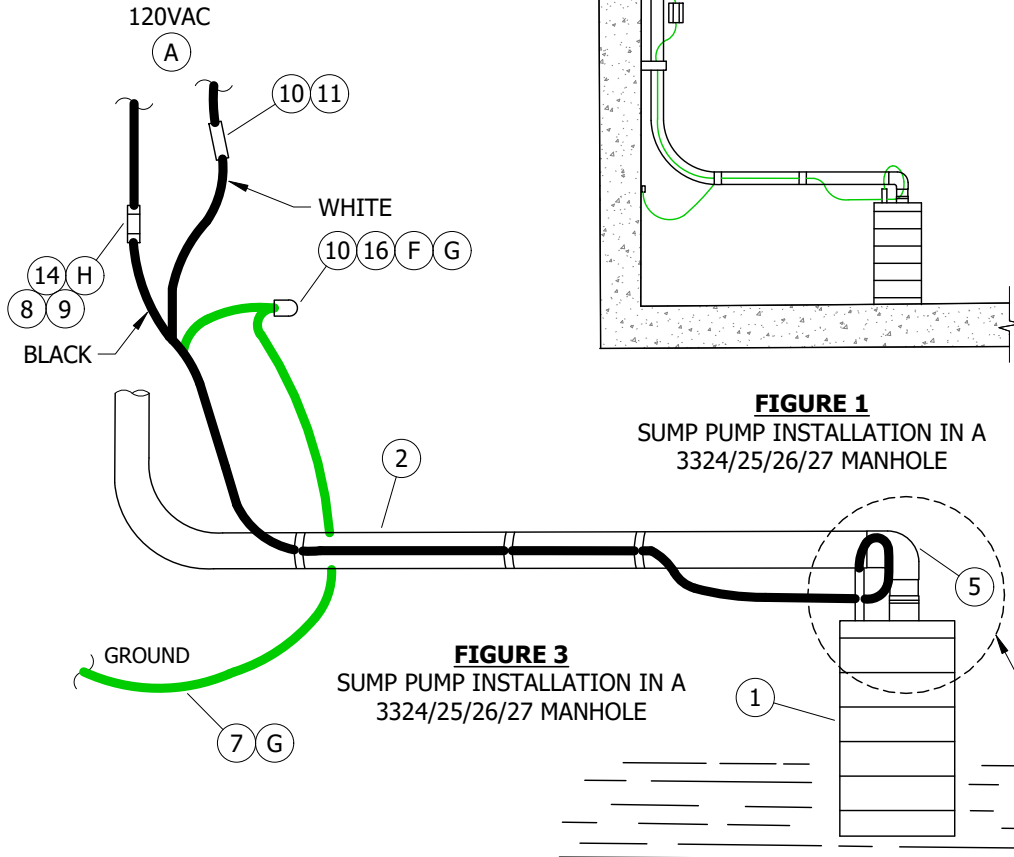

FIGURE 1
- (A) PROVIDE A 120V, SINGLE-PHASE SERVICE TO PUMP LOCATION. IF SECONDARY DOES NOT EXIST IN SUBSTRUCTURE AND A SPARE SECONDARY CONDUIT IS NOT AVAILABLE, A PRIMARY CONDUIT MAY BE SUBSTITUTED.
- (B) CORE BORE WITH A 3 1/2-INCH BIT TO MAKE THE HOLE THROUGH THE CURB AND 2-INCH BIT TO MAKE THE HOLE THROUGH THE MANHOLE. CORE BORE THE CURB AT A 45 DEGREE ANGLE TOWARD THE GRAVITY LOW OF THE WATER ON THE DOWNWARD SIDE OF THE SUBSTRUCTURE. REDUCE CONDUIT TO 1 1/2 INCHES AFTER THE SECOND 3-INCH 90 DEGREE BEND. BRING THE CONDUIT IN ON THE SHORT SIDE OF THE SUBSTRUCTURE WHENEVER POSSIBLE.
- (C) INSTALL THE DISCHARGE CONDUIT AS SHOWN IN FIGURES 1 OR 3, MAKING SURE THAT ARROW ON CHECK VALVE IS DIRECTING WATER FLOW UPWARD TOWARD STREET.
- (E) WHEN PUMP IS DISCONNECTED FROM HOSE, CUT THE HOSE AS CLOSE TO THE PUMP AS POSSIBLE. FOR RE-ATTACHMENT, USE A 1 1/2-INCH COUPLING.
- (F) CUT 120V ELECTRICAL PLUG FROM END OF PUMP CORD. USING STA-KON OR EQUIVALENT CONNECTORS AND HEAT SHRINK TUBES, ATTACH WIRE AS SHOWN IN FIGURES 1 OR 3.
- (G) SPLICE THE PUMP GROUND WIRE (GREEN) TO A #8 CU WIRE (ITEM 7) USING A STA-KON OR EQUIVALENT CONNECTOR. ATTACH THE #8 CU WIRE TO SUBSTRUCTURE GROUND.
- (H) INSTALL FUSE HOLDER WITH FUSE INSIDE AS HIGH AS POSSIBLE AND ABOVE WATER MARKS ON SUBSTRUCTURE WALL WHERE FUSE CAN BE CHANGED FROM LADDER. APPLY SEALING COMPOUND TO ASSURE A WATERTIGHT CONNECTION.
- (K) THIS PUMP SHALL NOT BE USED TO PUMP THE SUBSTRUCTURE DRY. MANUAL OPERATION OF SUMP PUMP WITHOUT 2 INCHES MINIMUM OF WATER SURROUNDING PUMP AT ALL TIMES WILL DAMAGE THE PUMP UNIT.